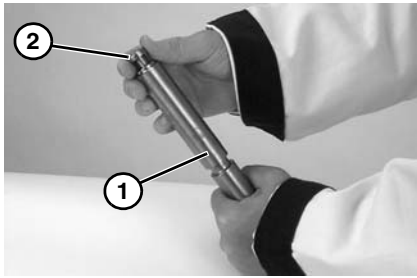

Figure 59
2. Inspect spindle (**Figure 59, item 1**). Replace if worn.
3. Slide bearing (**Figure 59, item 2**) onto spindle .